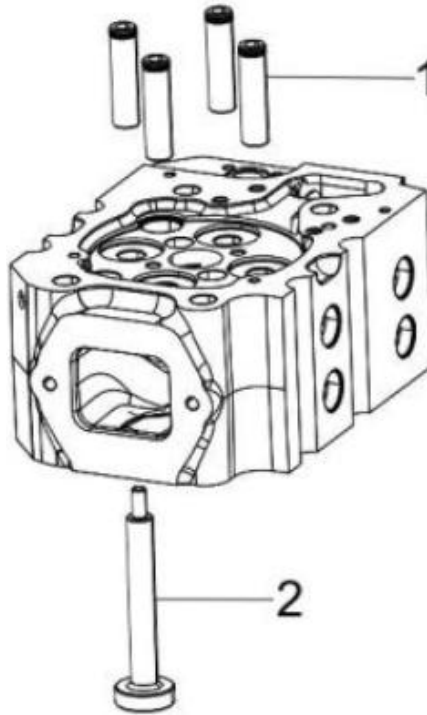

Figure 56. Cylinder Head Valve Guides
3. If the valve guides were not within specifications, use a hydraulic press to drive the valve guides (Figure 56, 1) out of the cylinder head.